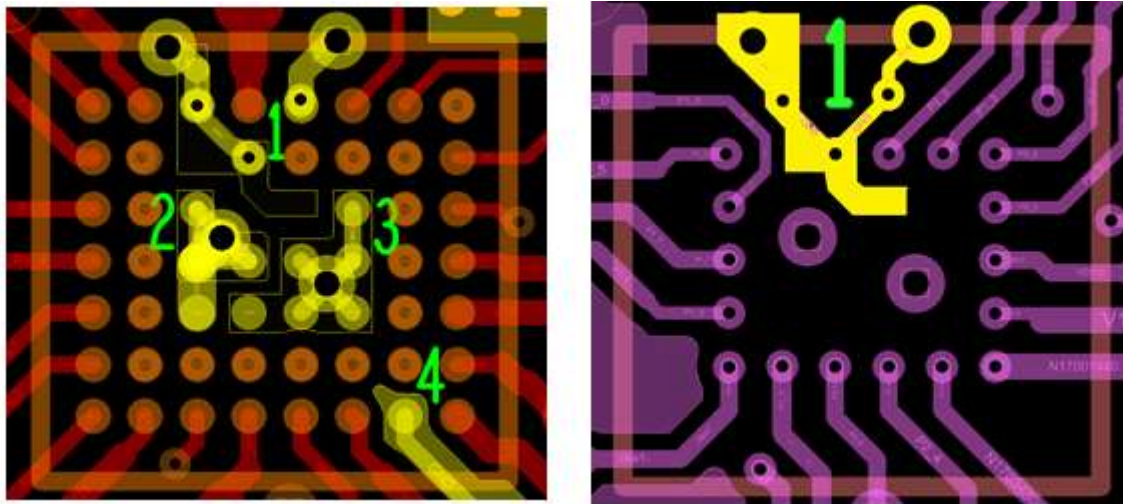

Figure 31: Ground connectivity Top (left) and layer 2 (right)
- Create a GND island on TOP layer, as it is illustrated on Figure 31.
- Create the GND island on TOP layer as shown on Figure 31
- Connect to GND as presented on Figure 31